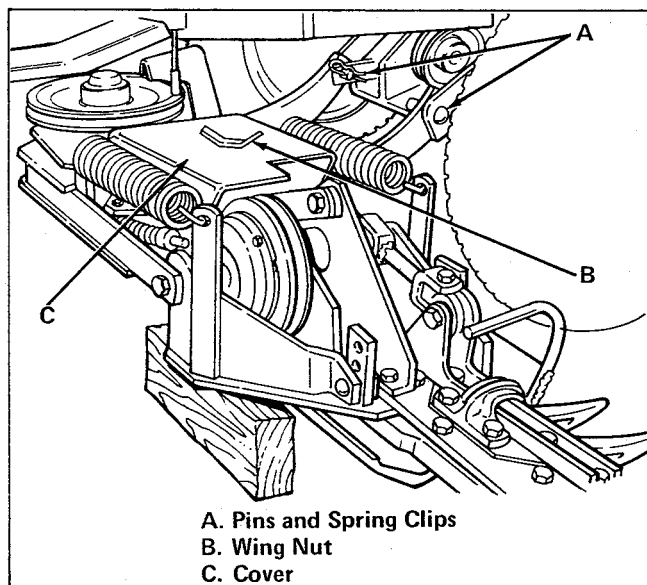

Figure 4. Mower Installation
10. Raise front of mower and attach it to front hitch. Use two pins and spring clips (item A, figure 4).